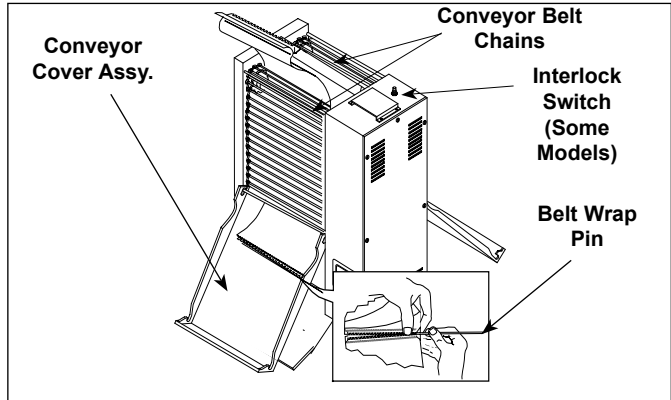

Figure 5. Removing Belt Wrap
2. Press and hold both **TEMP UP** and **TEMP DOWN** buttons for more than 1 second until the display flashes the Platen set point temperature, then release (Figure 5).